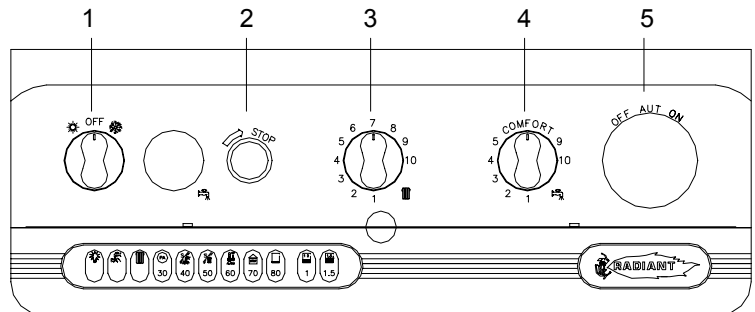

Fig. 1
- ⇒ **The anti-freeze system will come into operation only if the boiler is in the winter (❄) or summer (☀) position (with selector switch 1 in fig. 1 turned to the summer or winter position) and the gas supply turned on. The manufacturer can accept no responsibility for damage to the boiler caused by lack of observation of these requirements.**
### LEGEND (see fig. 1)
It may be necessary to repeat the procedure a few times to purge air from the pipes. To repeat the ignition procedure press release button 2 (see fig. 1) and then try the ignition procedure once again. If the boiler does not start, press the reset button (see fig. 1 pag. 1). **IMPORTANT** should the boiler fail to ignite wait 3 minutes before pressing button again.
- turn selector switch 1 to the OFF position (see fig. 1 pag. I).;
Summer-winter use (see fig. 1 pag. I).
The heating temperature is regulated by turning knob 3 (see fig. 1 pag. I).
The hot water temperature is regulated by turning knob 4 (see fig. 1 pag. I).
If boiler locks-out (fig. 1 page I, indicator no. 2 ON) proceed as follows:
- press red reset button (2) (fig.1 page I)